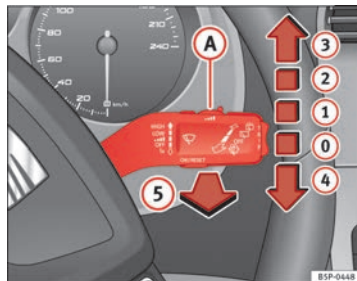

Fig. 84 Windscreen wiper and windscreen wash lever
The windscreen wiper lever ⇒ Fig. 84 has the following positions:
- The next speed down will automatically be selected if wiper speed ② ⇒ Fig. 84 or ③ is selected when the vehicle stops. The set speed will be resumed when the vehicle starts again